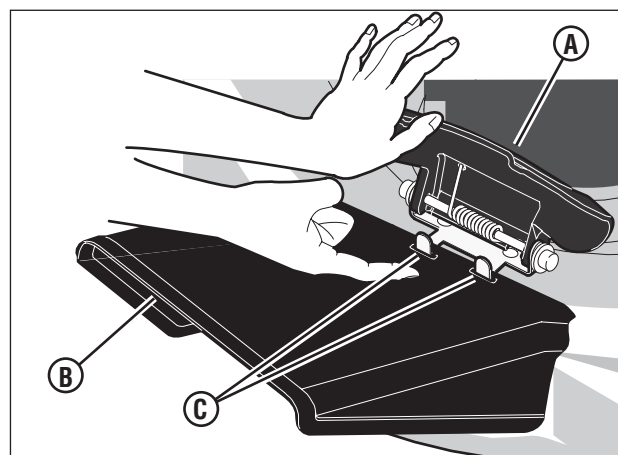

Figure 8: Installing the discharge deflector
1. Raise the mulching cover **(A, Figure 8)**.